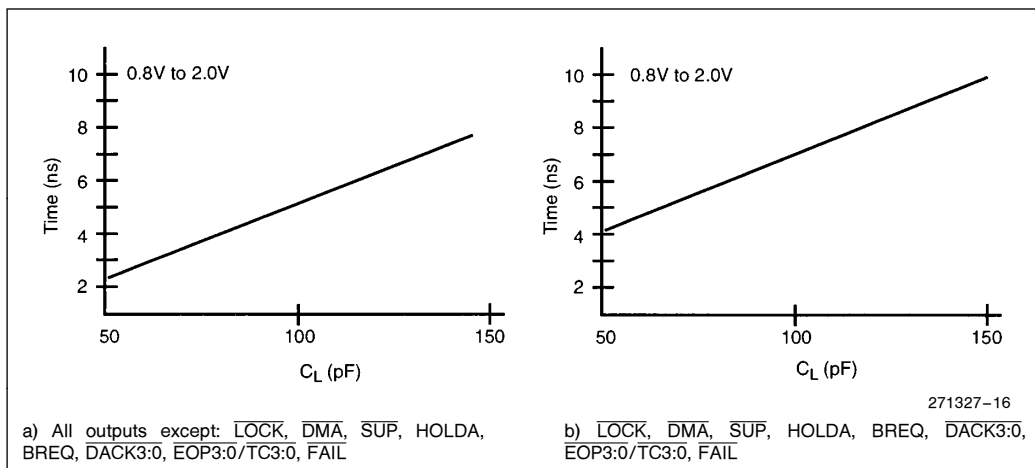

Figure 16. Rise and Fall Time Derating at Highest Operating Temperature and Minimum  $V_{CC}$
- See Figure 16 for capacitive derating information for output delays and hold times.